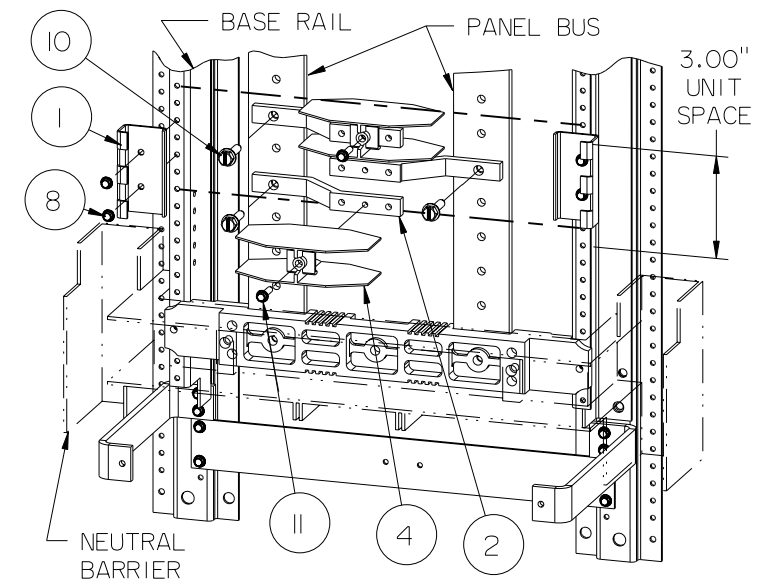

Figure 4
6. Refer to fig. 4. - Position the two breaker supports (item 1) on the base rails in the center of the 3" the kit unit space as shown. Fasten them to the base rails using four 8-32 screws (item 8). Install the three outer connectors (item 2), alternating between the left and right panel bus. The left-right-left connector pattern may be reversed to continue a pattern already in place in the panel. Fasten the connectors to the panel bus with three 1/4-20 X 1" screws. (item 10).